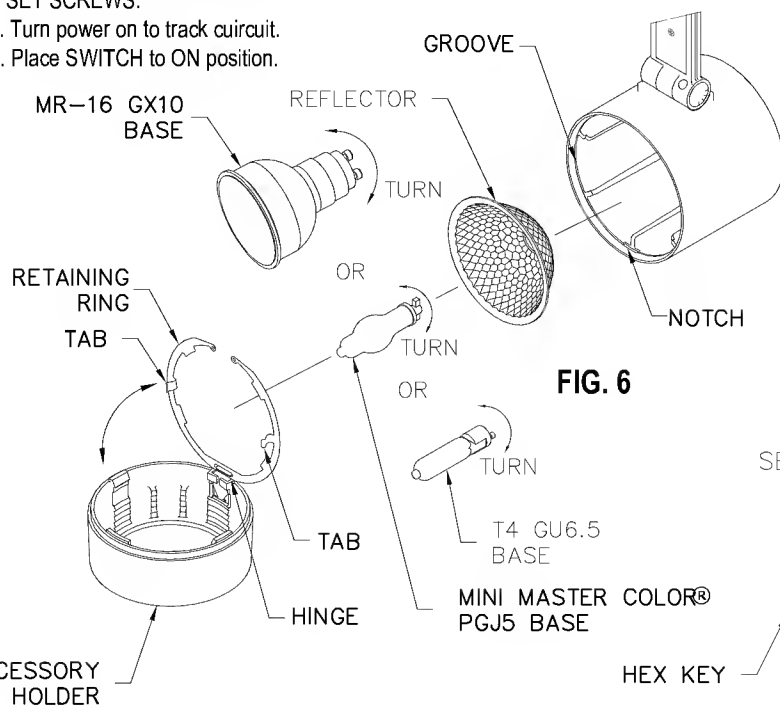

FIG. 6
3. If a REFLECTOR is required remove ACCESSORY HOLDER and RETAINING RING by squeezing TABS on RETAINING RING and remove from GROOVE (FIG 6).